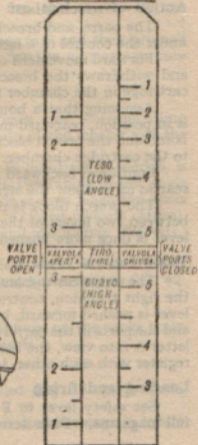

FIG. 18.—45 MM. MORTAR, MOD. 35—BRIXIA
30. 45 mm. light mortar, Mod. 35—Brixia. (See Fig. 18)
A range scale (*see* Fig. 18) graduated in 50 metre steps and numbered in hundreds of metres, is fixed on the inside of the left elevating arc. The front half of this scale indicates ranges at low angle fire (*tiro teso*) and the rear half at high angle fire (*tiro curvo*). The left side is used when the ports in the barrel are open (*valvola aperta*) and the right side when the ports are closed (*valvola chiusa*). The mid position corresponds to 322 metres (352 yds.) with the ports open and 536 metres (586 yds.) with the ports closed.